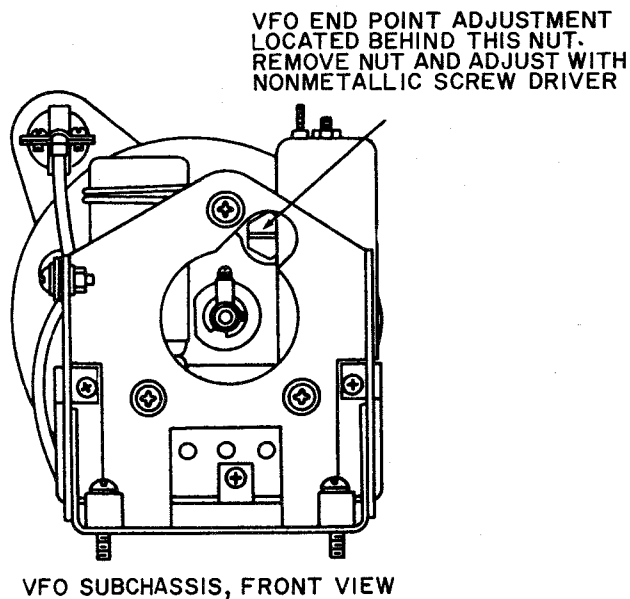

Figure 6-7. Variable-Frequency Oscillator End-Point Adjustment
6.2.16 Variable-Frequency Oscillator End-Point Adjustment. (See figure 6-7.) After the receiver has been in service for about a year, a frequency check of the variable-frequency oscillator may reveal that its range may not be exactly 3.455 to 2.455 MHz. In most cases, this condition is caused by aging of the frequency-determining components in the sealed VFO subchassis, and can be compensated for by the adjustment of end-point adjustment L701. Access to this adjustment is made by the removal of the screw on the front of the sealed VFO unit.
8. Use a screwdriver (1/8-inch wide blade) through the VFO end-point-adjustment access hole (figure 6-7) to adjust L701 for zero beat.